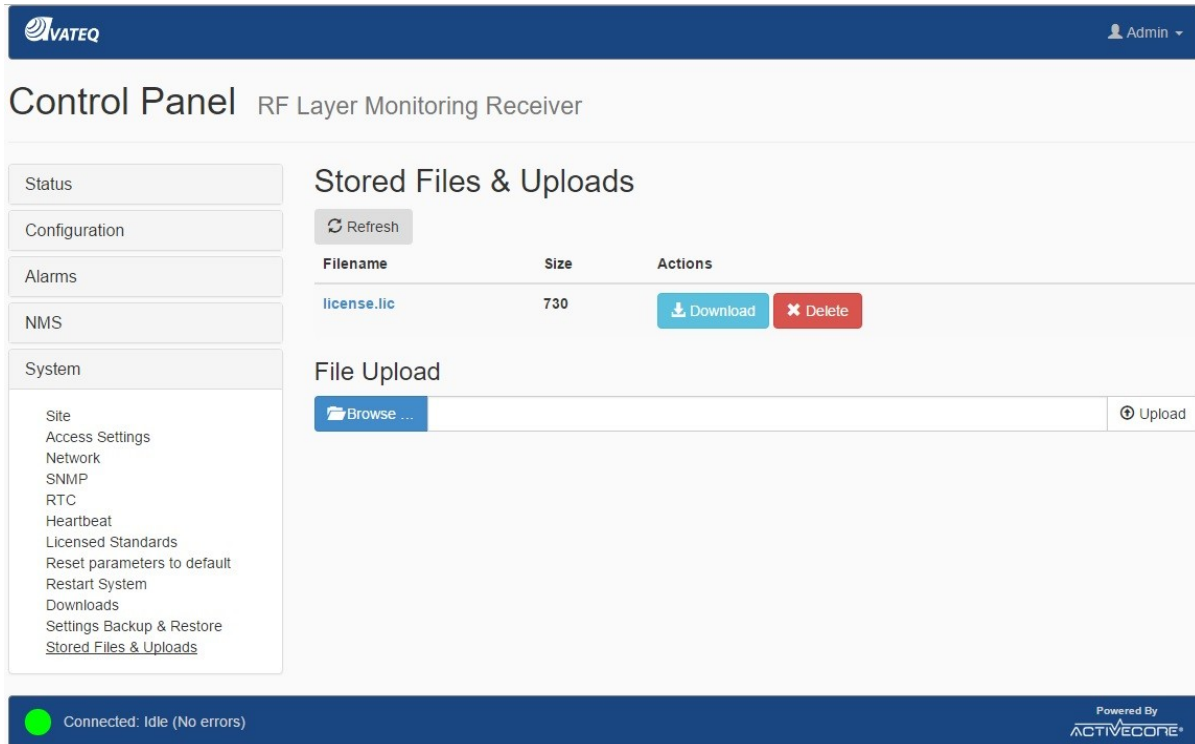

Figure 18. Stored Files and Uploads
1. Navigate to the **Stored Files & Uploads** menu page (Figure 18).